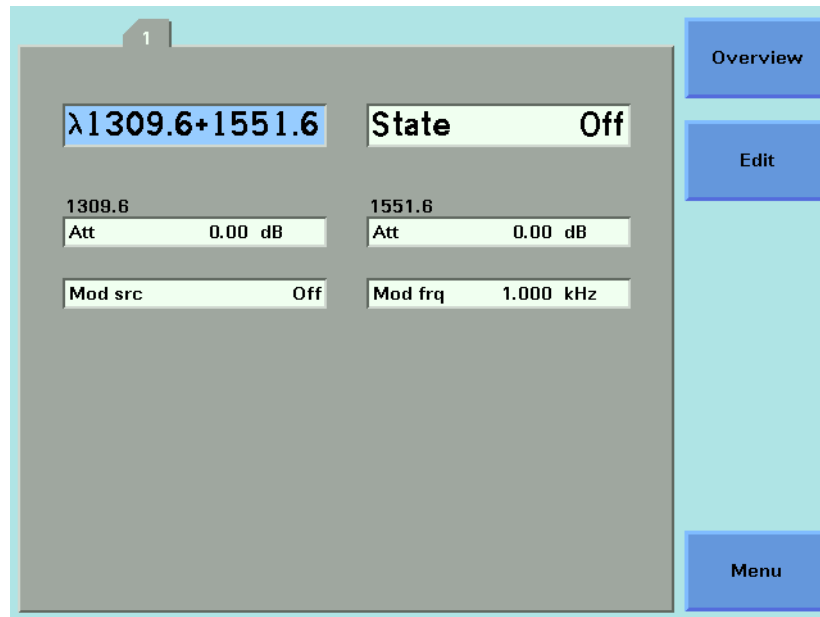

Figure 59 Dual-Wavelength Laser Source Outputs Both Wavelengths
- 2 Select <1309.6+1551.6>, using the cursor key, and press *Enter*. You will see the screen in Figure 59.